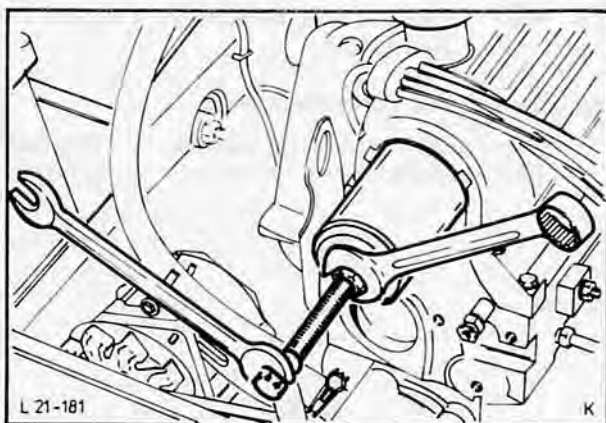

Fig. 199. Fit camshaft oil seal using Special Tool 21-009-A
5. Fit new oil seal (with sealing lip slightly oiled) using Special Tool 21-009-A, Fig. 199.